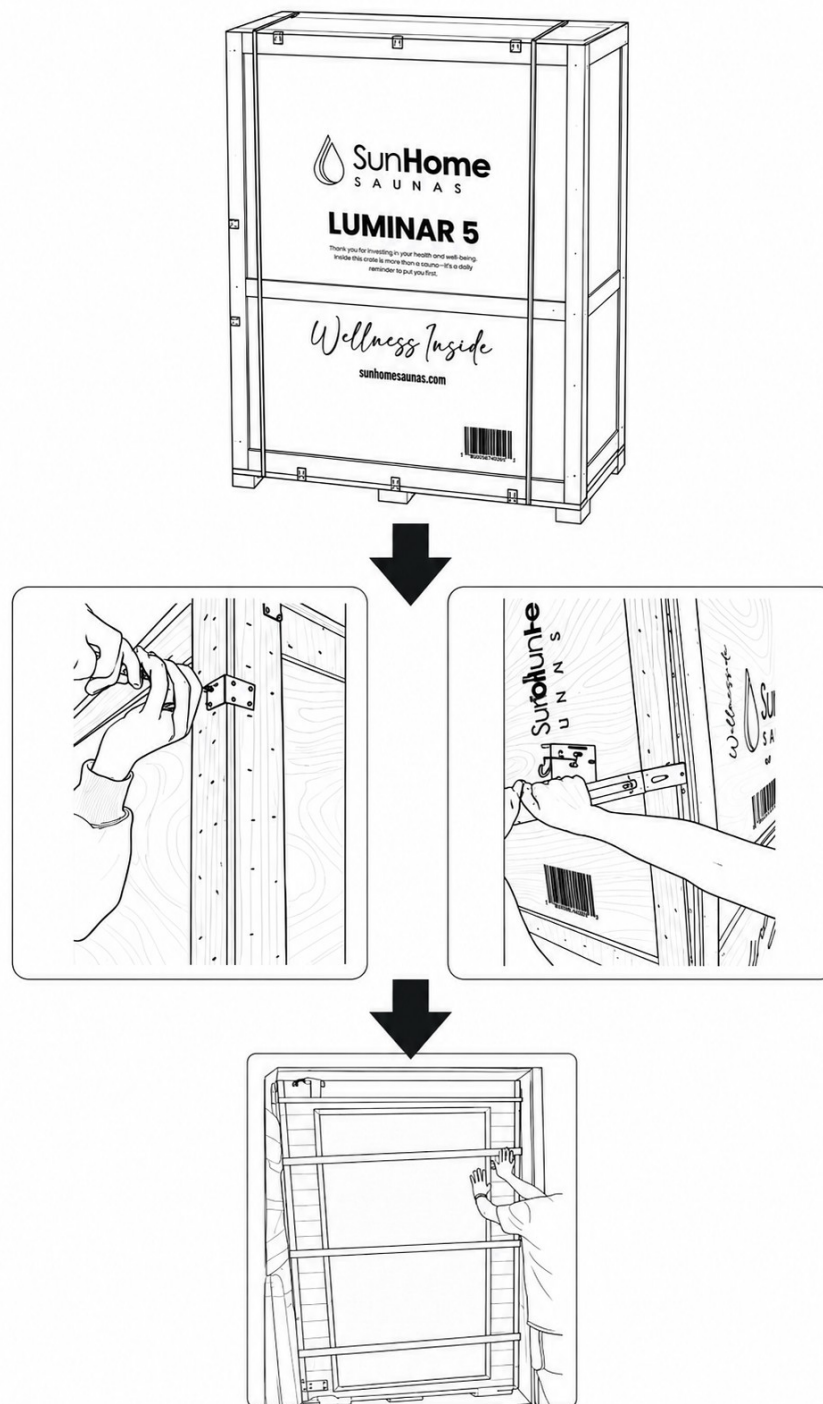

Figure 2. Uncrating: brackets off, front panel open, panels supported.
- Pry the front panel open: bottom first, then sides, then top, and watch for utility staples around the perimeter (Figure 2).